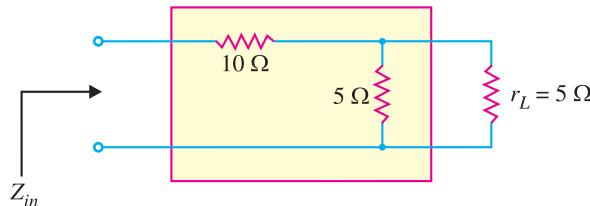

Fig. 24.9
**Example 24.3.** Find the (i) input impedance and (ii) voltage gain for the circuit shown in Fig. 24.9.
It means that output voltage is one-fifth of the input voltage. This can be readily established by inspection of Fig. 24.9. The two  $5\Omega$  resistors in parallel give a net resistance of  $2.5\Omega$ . Therefore, we have a voltage divider consisting of  $10\Omega$  resistor in series with  $2.5\Omega$  resistor.
**Comments.** The reader may note that in a simple circuit like that of Fig. 24.9, it is not advisable to use  $h$  parameters to find the input impedance and voltage gain. It is because answers of such circuits can be found directly by inspection. However, in complicated circuits, inspection method becomes cumbersome and the use of  $h$  parameters yields quick results.